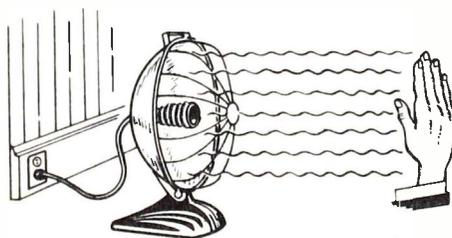

Fig. 2—Heat Transfer by Radiation
1. RADIATION—Passage of heat from one object to another without warming the space between. The heat is transmitted by wave motion similar to light, as illustrated in Fig. 2.